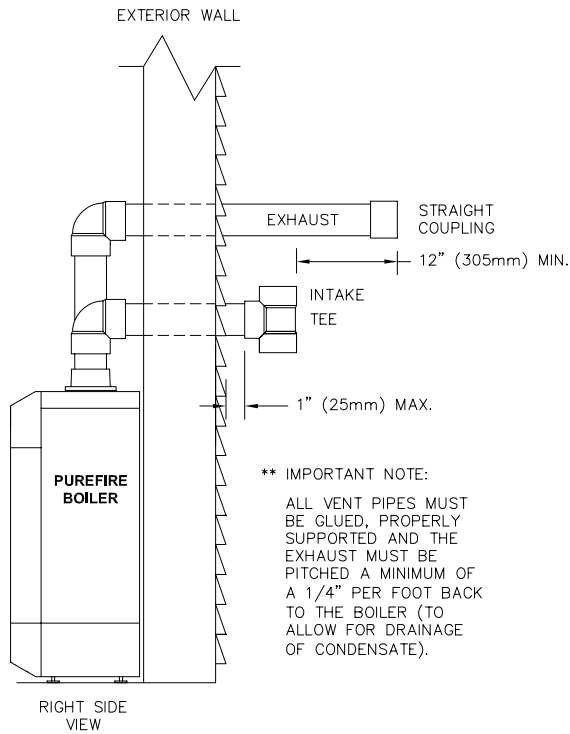

Figure 3.3: Standard Exhaust & Air Inlet Pipe Terminations
- b. Figures 3.3 through 3.6 show approved sidewall venting configurations using the standard fittings supplied.
- f. Refer to Figures 3.3 through 3.7 for sidewall venting options using PVC or CPVC pipe.